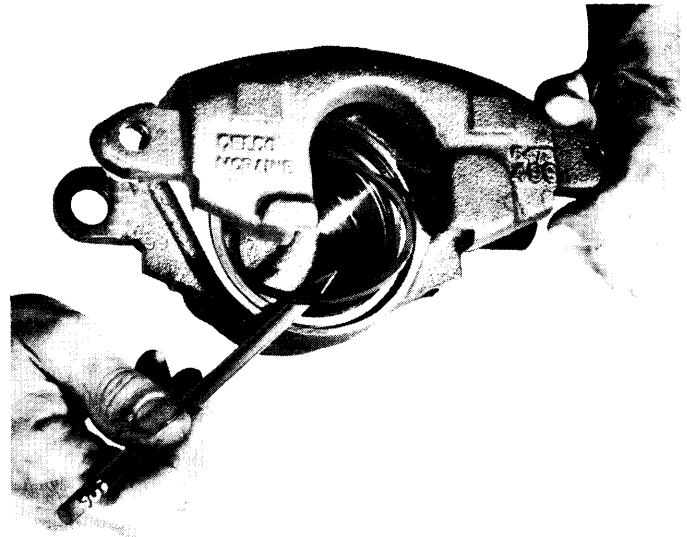

Fig. 9-34 Piston Seal Removal
(10) Remove piston seal from piston bore using pencil (fig. 9-34) and discard seal.